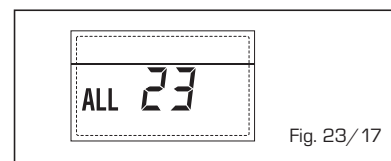

Fig. 23/17
- **ANOMALIA SONDA COLETOR SOLAR (S1) "ALL 24"** (fig. 23/18)